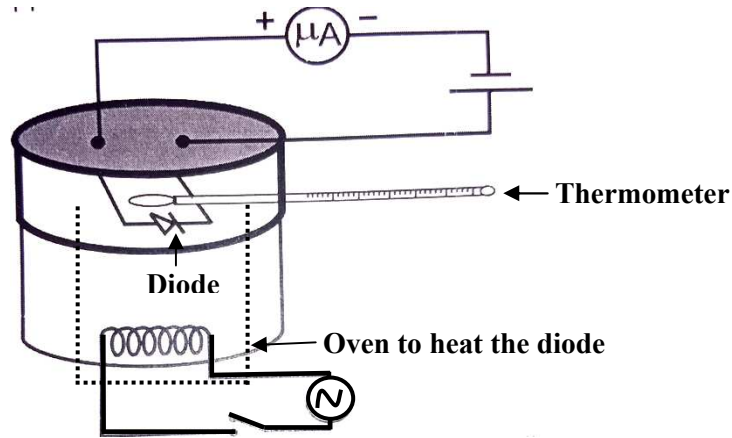

Fig.2. Temperature control unit, the reverse biased germanium diode and the electrical circuit to measure I at different temperatures T .
- ii. Connect micrometer in the reverse biased PN junction circuitry according to Fig. 2. Put the diode in place on the board for heating and fix a thermometer to measure the temperature.